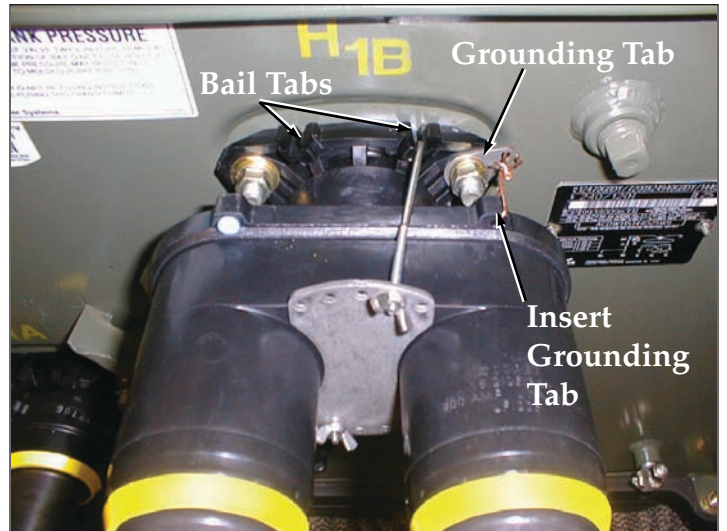

Figure 2
A – There are six (6) bail tabs (two on each side of the well) that should be used to attach the bail hooks from the Feed-Thru Insert mounting bracket. Each tab is capable of handling 400 lbs of force and 160 lbs of torque. See Figure 2.